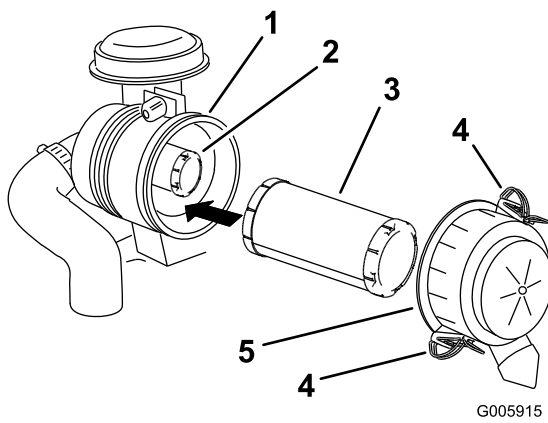

Figure 45
3. Release the latches on the air cleaner, and pull the air-cleaner cover off the air-cleaner body (Figure 45).
5. Gently slide the primary filter out of the air-cleaner body (Figure 45).
2. If the inner filter is being replaced, carefully slide it into the filter body (Figure 45).
3. Carefully slide the primary filter over the inner filter (Figure 45).
5. Secure the cover with the latches (Figure 45).